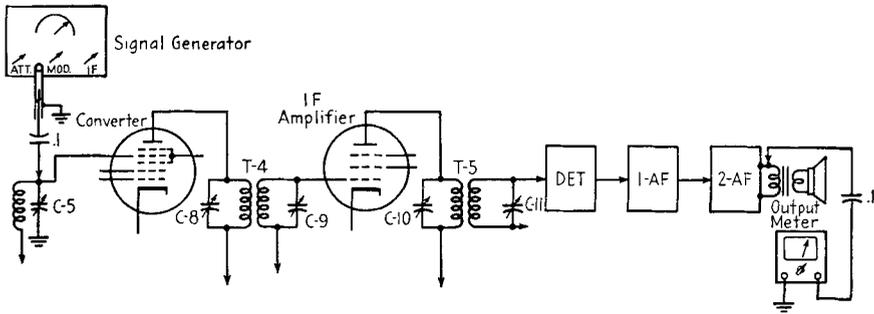

FIG. 13-11. Connections for the signal check of the IF stage.
**Signal check.** The test point for the signal check of the IF stage is the converter signal grid, as shown in Fig. 13-11. As was the case in the signal check for the detector stage, the input signal is applied to a previous tube, to avoid the detuning effect of the capacity in the signal generator. The converter-grid test point is readily available, either at the top contact of the 6A8 converter tube or at the stator-plates terminal of the converter tuning condenser, *C-5*. The output indication is the modulation note of the signal generator in the speaker, or its amplitude, as
The receiver test oscillator and output meter are connected, as shown in Fig. 13-11. The receiver's RF section is made inoperative by shorting the oscillator section of the gang tuning condenser. The receiver is set to the full volume and minimum bass positions. A selectivity control, if any, is set for the maximum selectivity position. The test oscillator is